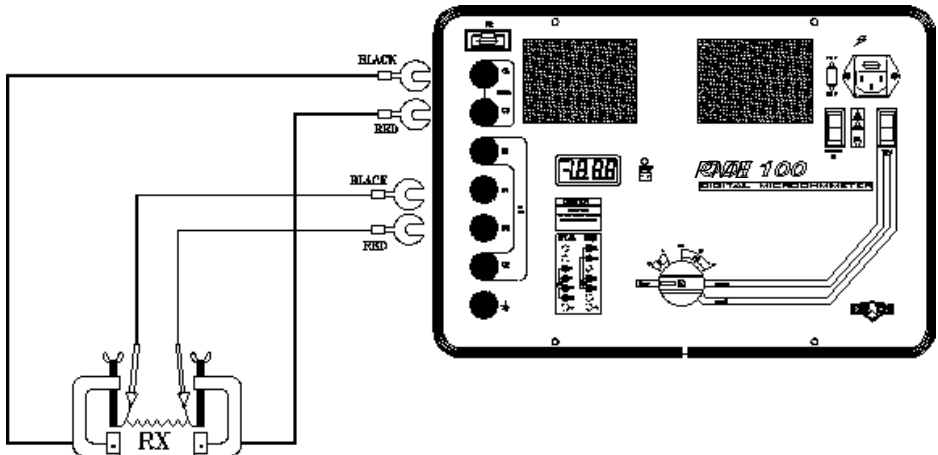

Fig. 4.3. - The Connections for Measurements in the $200\mu\Omega$ and $2000\mu\Omega$ ranges.
Using the 14m 100A current and potential test cables connect the unknown resistance to the PME-100 as shown in Figure 4.3. Make sure the connections are well tight at both sides of the cables to obtain the best measurement conditions with minimum power losses. If necessary, clean the contacts from any dirt, oil or grease usually found in the field.
3. After checking the 2m Ω range, place the range switch in the "CHARGE" position. Disconnect the 10A cables and connect the 100A current and potential test cables. Use Fig. 4.3 as reference.